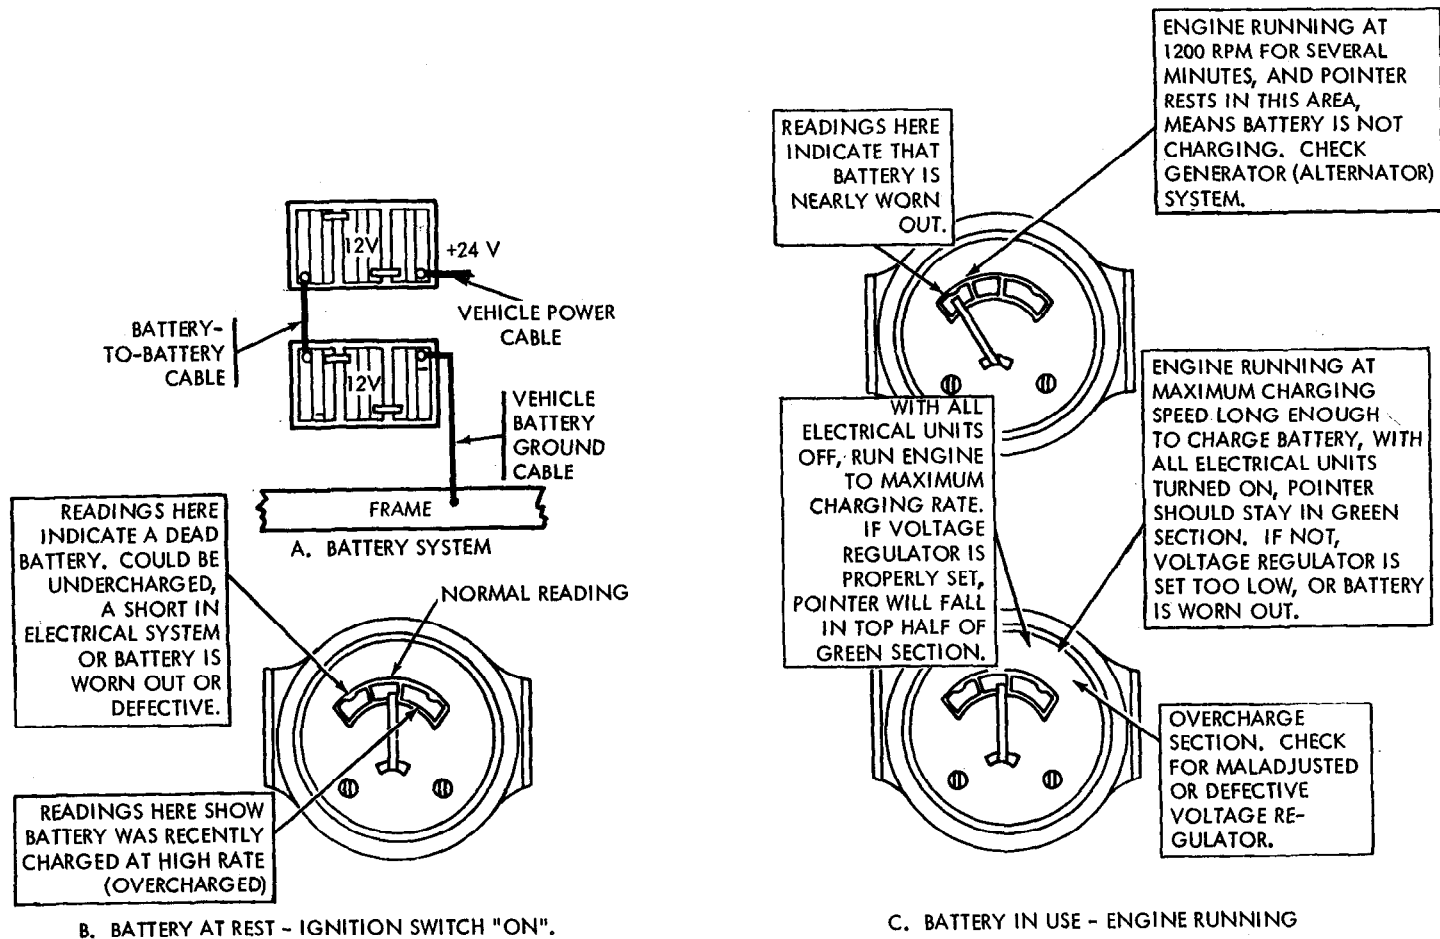

Figure 2-15. Interpretation of battery-generator indicator gage.
*a. Preliminary Battery Check.* The vehicle battery condition should be checked prior to performing any electrical checks in the vehicle. The vehicle has two 12-volt batteries connected in series, furnishing 24 volts to the electrical system (fig. 2-15) which uses a negative (—) ground and a positive (+) power feed to the electrical components. To test the battery condition, turn the ignition switch to ON (without starting the engine). Observe the battery indicator (fig. 2-15). Start the engine, accelerate to about 1200 rpm, and again observe the battery indicator. If the indicator observations show that further tests are required, refer to the Electrical Troubleshooting tests, Battery System (fig. 2-17).
(1) Hold the hydrometer vertically, so the float does not touch the sides of the glass barrel. Be certain that the barrel is not so full of electrolyte that the float is stopped at the top. Read straight
DESCRIPTION:	<p>The 25-ampere dc generator electrical system consists of the following components: Battery-generator indicator, 25-ampere dc generator, generator regulator, charging circuit insulated cable, main wiring harness, battery ground cable and engine-to-frame ground strap. The circuit is energized by mechanical rotation of the generator. As the dc voltage builds up, the reverse current relay closes and supplies current to the battery through the current relay coil in the regulator. The voltage relay coil measures the voltage across the battery. When the voltage rises to more than 28 volts, the generator output is reduced by varying a resistance in the generator field coil circuit. When the engine slows down and the generator voltage fails substantially below the battery voltage, the reverse current relay disconnects the generator from the battery. The charging status of the generator is indicated by the battery-generator indicator (fig. 2-15).</p>
Failure of the generator system usually results in discharged or overcharged batteries. If the batteries become discharged without obvious cause, the generator system may be at fault. Quite often, failure of the generator system can be anticipated by observing the battery-generator indicator. Refer to paragraph 2-25a and figure 2-15 for correct interpretation.